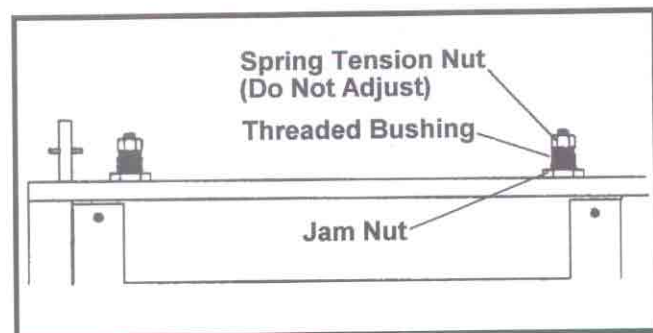

Fig. 12
8. Raise or lower the feed roller until it rests on top of the block end to end. To adjust the feed roller (Fig 12):